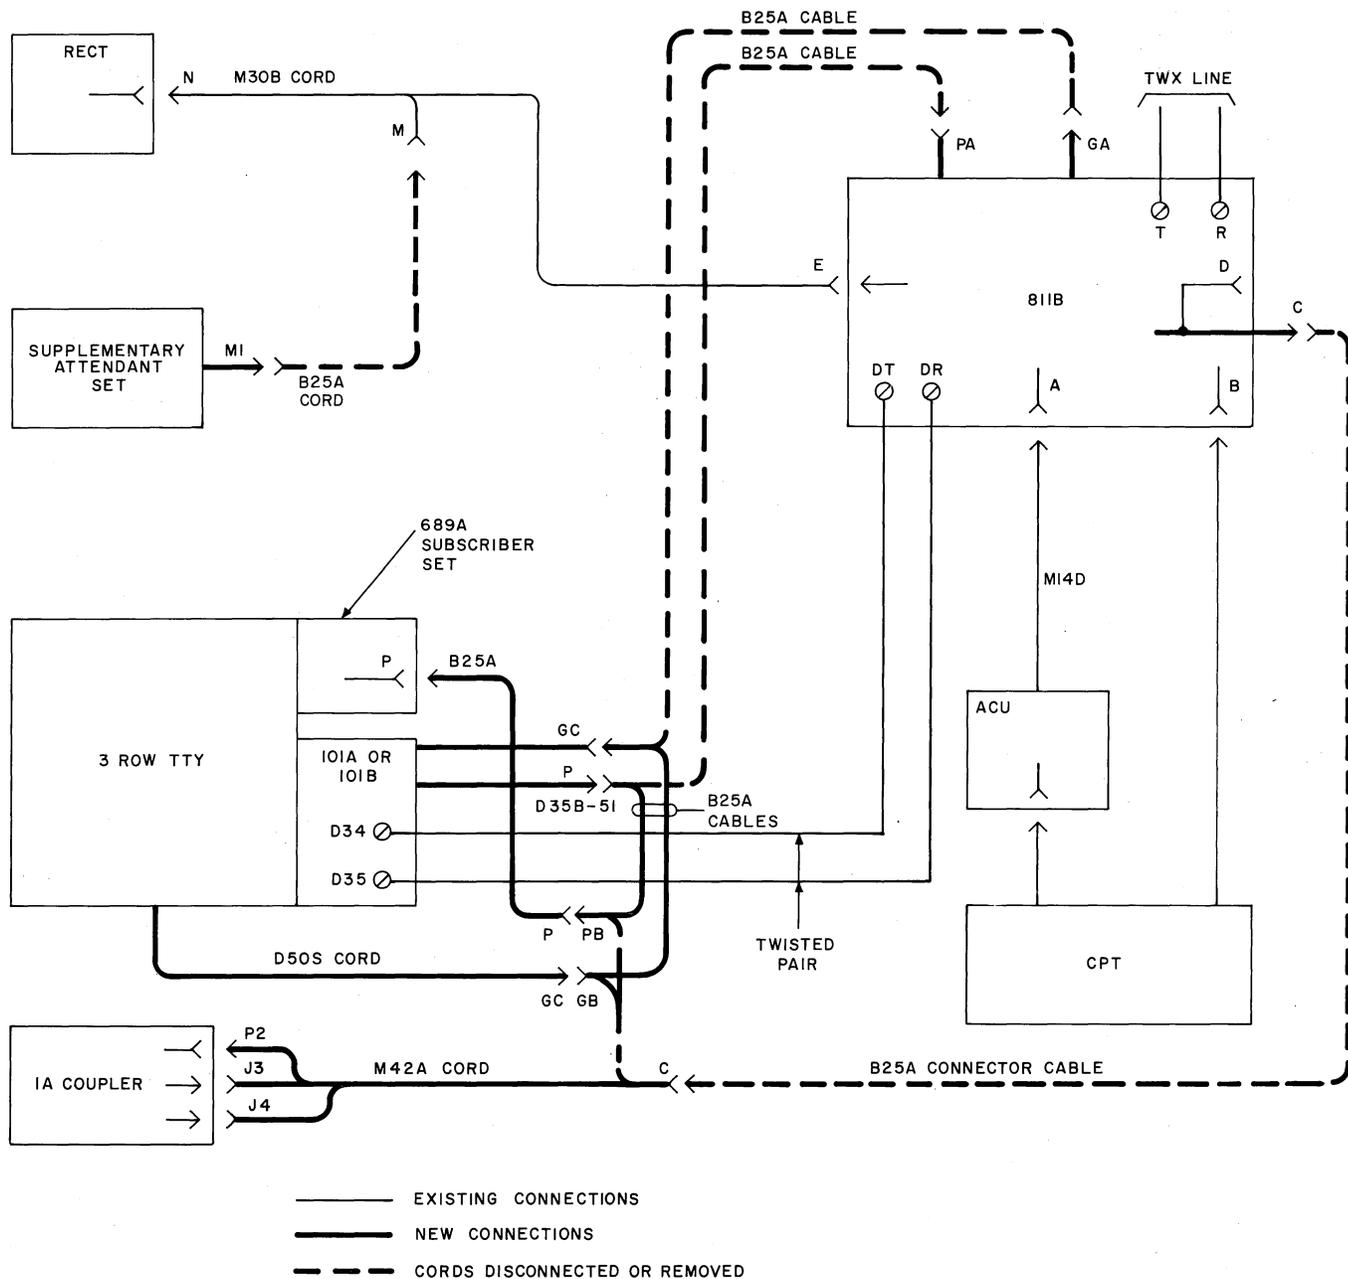
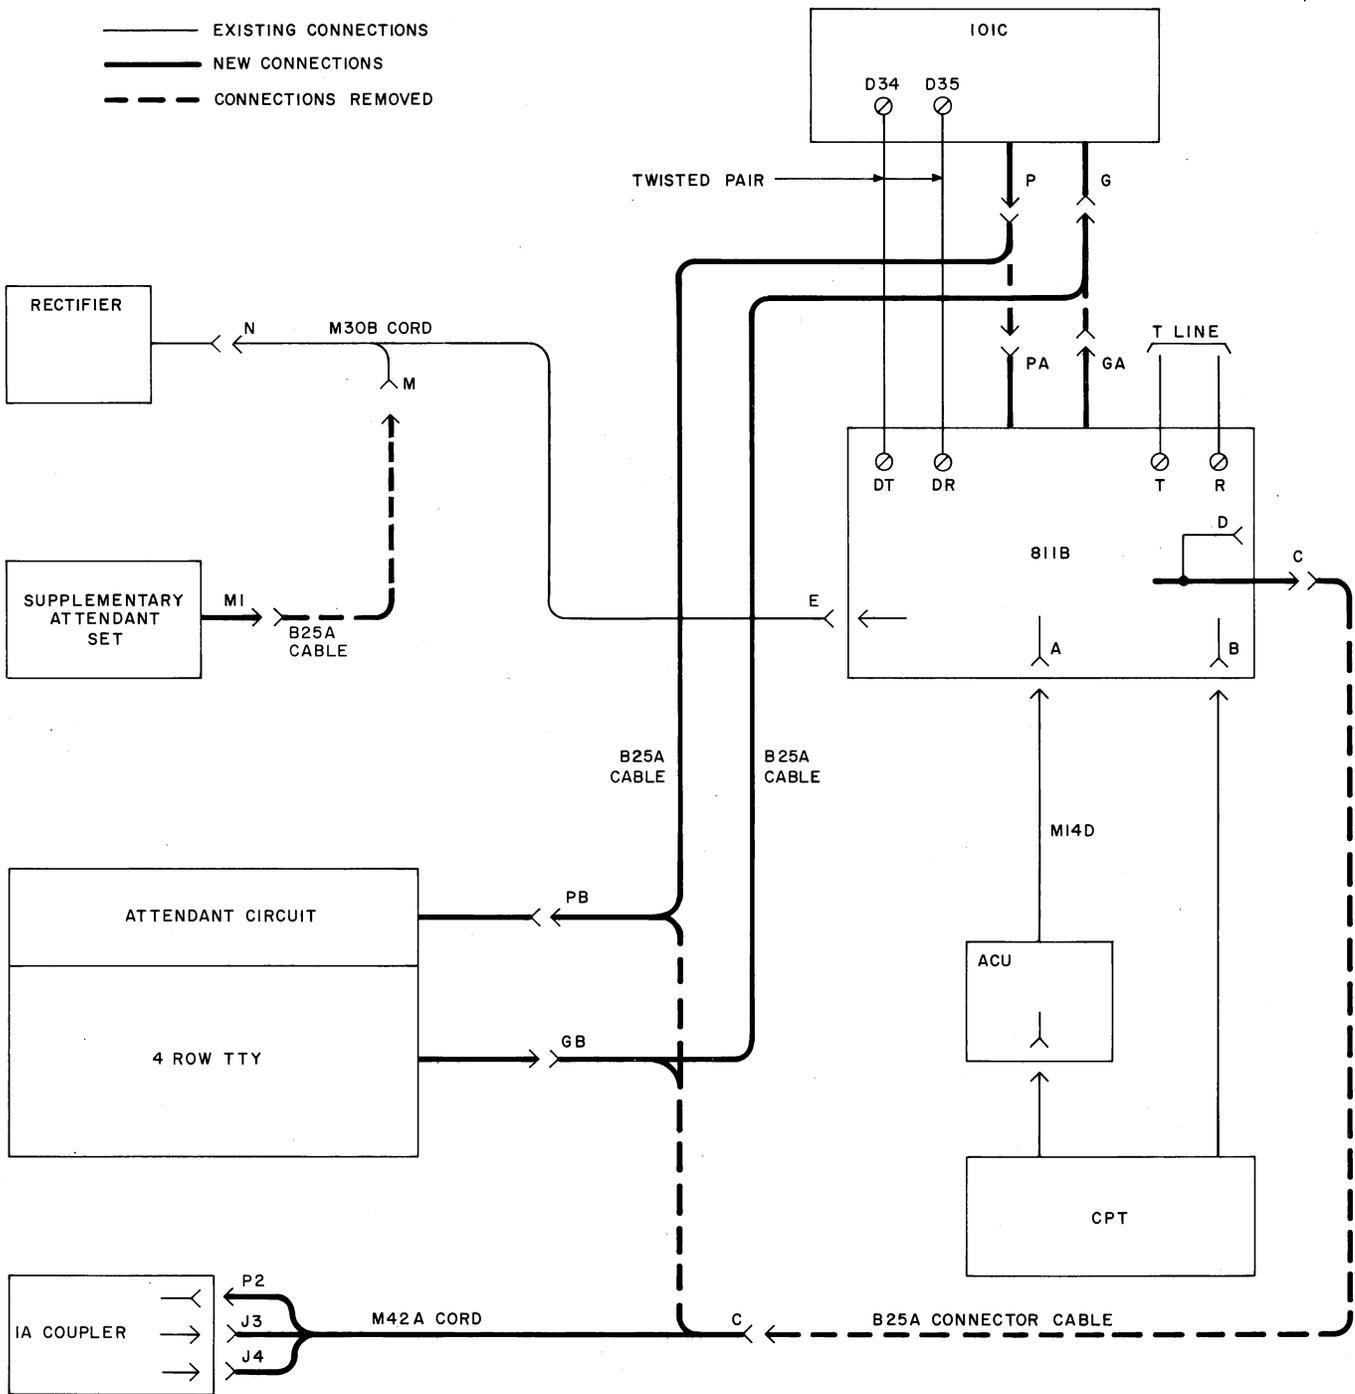

Fig. 6—Connections for Converting a 3-Row Station to a Basic TWX Facility
Fig. 7—Connections for Converting a 4-Row Station to a Basic TWX Facility
2.07 When trouble is experienced, the station can be simplified, if necessary, to a basic TWX facility by performing the steps indicated in the following text. Refer to Fig. 6 and Steps (1) through (7) for information on converting a 3-row station to a basic TWX facility. Refer to Fig. 7 and steps (8) through (14) for information on converting a 4-row station to a basic TWX facility. After completing the applicable steps, the station may be tested in the normal way for testing and maintaining TWX installations. Upon completion of testing, restore the station to its normal configuration by reconnecting the cords and connections that were removed and were changed during testing. After restoring the station to its normal configuration, check the connections by referring to the applicable parts of the practice entitled Data Auxiliary Set 811B-Type—Installation (598-049-200).